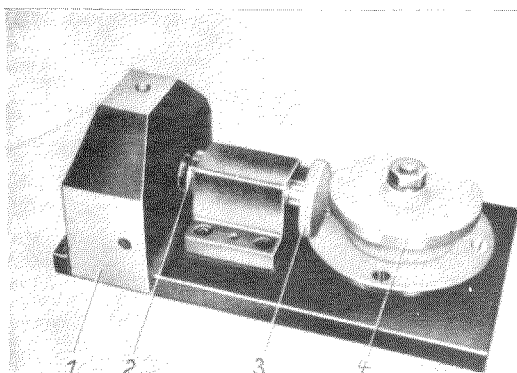

Fig. 35 — 4/28
75. In order to set the front edge of the drive pinion and the center line of the ring gear to the exact clearance, place the measuring disk (4) (108.00 mm diameter) on Adjusting Device (1) 180 589 01 23 and set it to zero. To do this, screw the adjusting screw (3) of the device either in or out, to the point where the measuring disk (4) can just be turned to and fro with ease. Then lock the adjusting screw with the lock nut (2). No light gap must be visible between the two surfaces (Fig. 35 — 4/28).